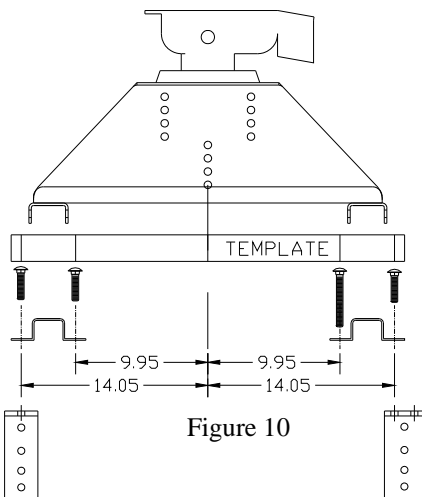

Figure 10
4. Once the center of the axle is known it is necessary to determine where the Base Rail Mounting Bolts, coming through the bed, will position the Mounting Brackets on the frame of the vehicle relative to any obstacles on the inside and outside of the frame. Figure 10 provides the dimensions from the center of the hitch to each hole location in the Base Rails. Instead of marking and remarking the frame, lay these measurements out on a piece of stiff material that can easily be held up against the frame. Your layout template should include a mark for the center of the hitch.